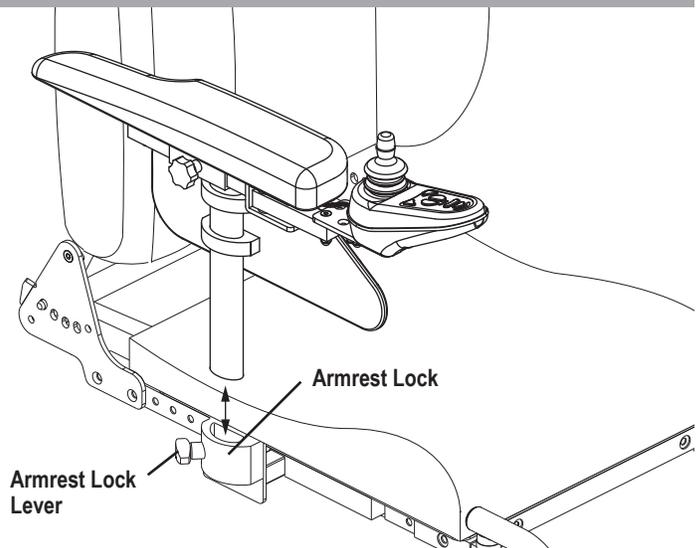

Figure 13. Armrest Removal, Installation, and Top Height Adjustment
1. Pull out the armrest lock lever. **See figure 13.**
1. Place the armrest assembly into the armrest lock. **See figure 13.**